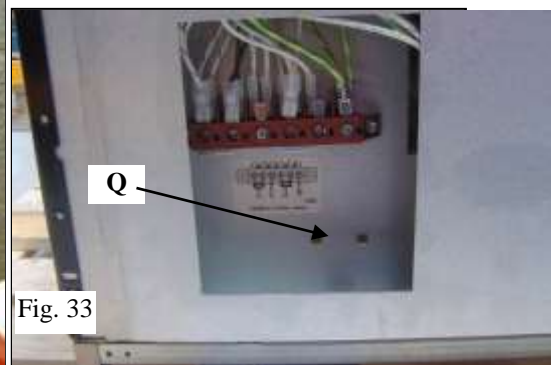

Fig. 33
- Secure the cable by means of cable clamp (no provided), item Q (Figure 33).